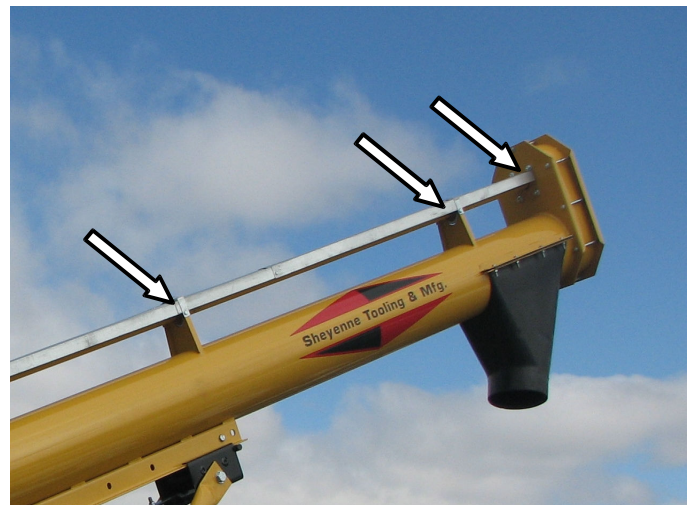

Fig 34 ADJUSTING LINESHAFT BEARINGS
7. By adjusting the line-shaft bearings, the bow in the line-shaft will be minimized. See Fig. 34